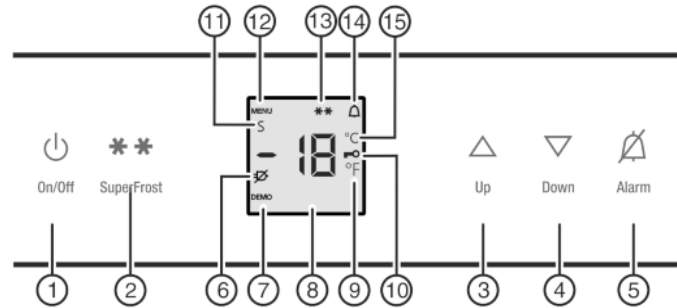

Fig. 2
- The SuperFrost symbol *Fig. 2 (13)* flashes together with the temperature display.\*
- ▶ Press the On/Off button *Fig. 2 (1)*.
- ▶ To activate setting mode: Press and hold the SuperFrost button *Fig. 2 (2)* for approx. 5 s.
- ▷ The Menu symbol *Fig. 2 (12)* lights up.
- ▶ Using Up button *Fig. 2 (3)*/ Down button *Fig. 2 (4)* select °.
- ▶ To confirm: Briefly press the SuperFrost button *Fig. 2 (2)*.
- ▶ To exit setting mode: Press On/Off button *Fig. 2 (1)*.
- ▶ To activate setting mode: Press and hold the SuperFrost button *Fig. 2 (2)* for approx. 5 seconds.
- ▷ In the display, the Menu Symbol *Fig. 2 (12)* is displayed.
- ▶ Using the Up *Fig. 2 (3)* or Down button *Fig. 2 (4)*, select c.
- ▶ Confirm briefly by pressing the SuperFrost button *Fig. 2 (2)*.
- ▷ The Child Safety symbol *Fig. 2 (10)* lights up on the display.
- ▶ Press the On/Off button *Fig. 2 (1)* briefly.
- ▶ Press Alarm button *Fig. 2 (5)*.
At the same time, the Alarm symbol *Fig. 2 (14)* will flash.